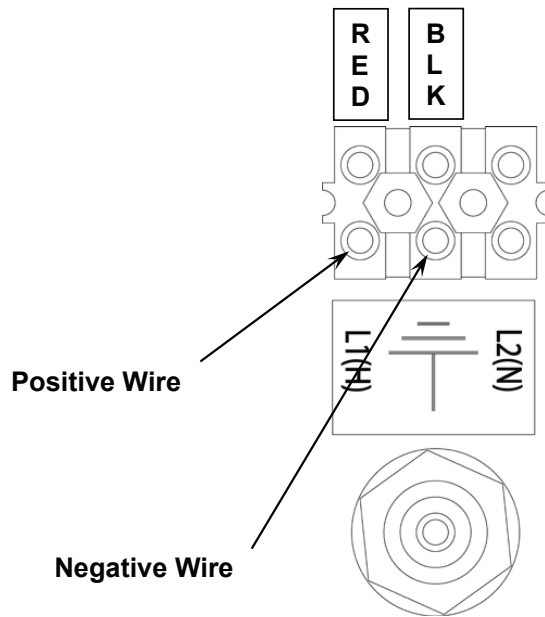

Figure No. 14
Strip $\frac{1}{4}$ " of insulation from each of the power source positive and negative wires. Solder tin each wire. Connect the positive (+) voltage source wire to the terminal marked L1(H) on the terminal block as shown below. Connect the negative (-) voltage source wire to the terminal marked GND on the terminal block as shown in Figure No. 14 below.